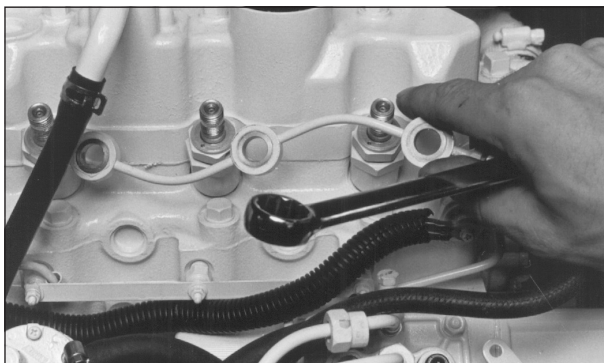
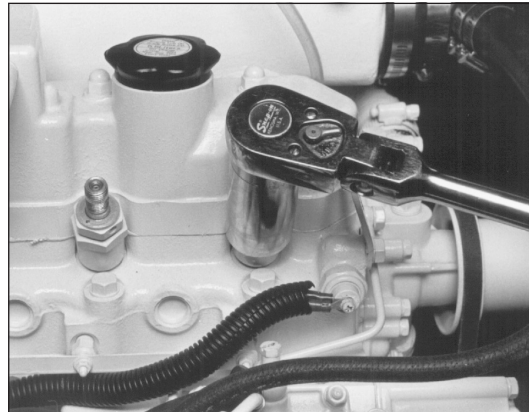

Figure 10: Remove return line.
Figure 11: Unscrew injector.
- d. Remove the return line retaining bolts (Figure 10). Remove the return line (Figure 11).